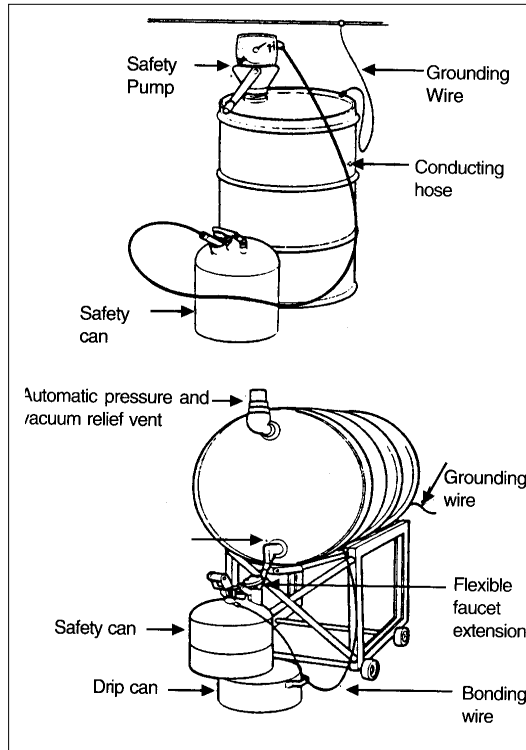

Figure 5A. Filling a Container From a Fuel Supply Tank
5. Control the flow of the liquid and avoid spills. See Figure 5A.